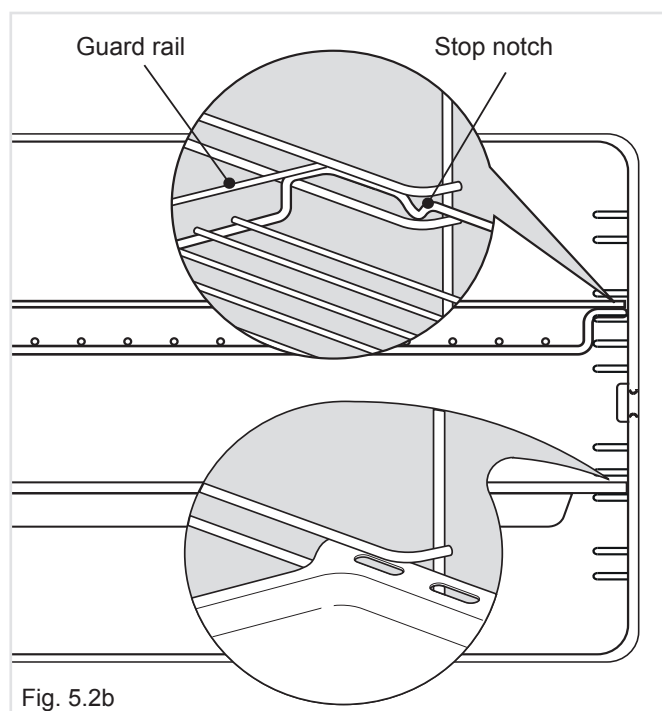

Fig. 5.2b
- Slide the rack into the runners (fig. 5.2b).